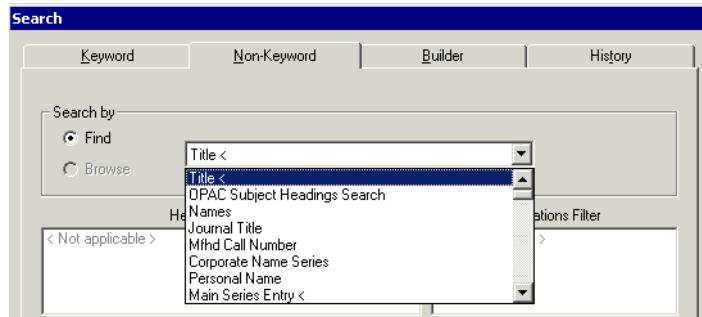

Figure 2-28. Type of search
2. Select the type of search wanted from the drop-down menu (see Figure 2-28).